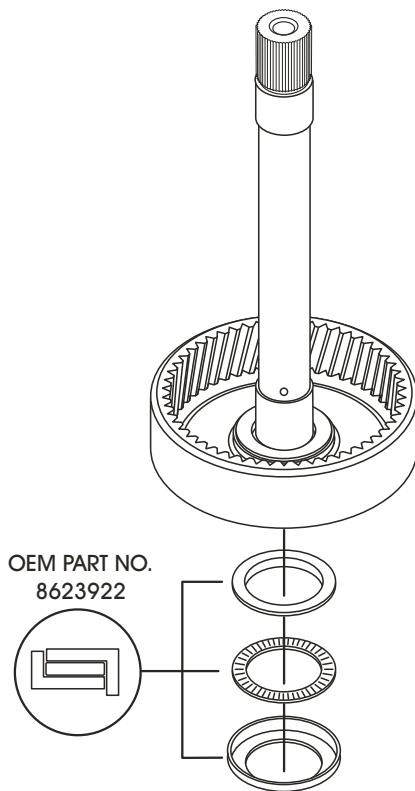

Figure 60
13. Install the upper needle bearing race from the 8623922 package over the ring gear snout with the inside lip facing away from the ring gear as shown in Figure 60, and retain with a small amount of TransJel.
14. Install the needle bearing assembly onto the upper race and retain with a small amount of TransJel, as shown in Figure 60.
15. Install the lower needle bearing race on top of the needle bearing with the inside lip facing up, as shown in Figure 60, and retain with a small amount of TransJel.